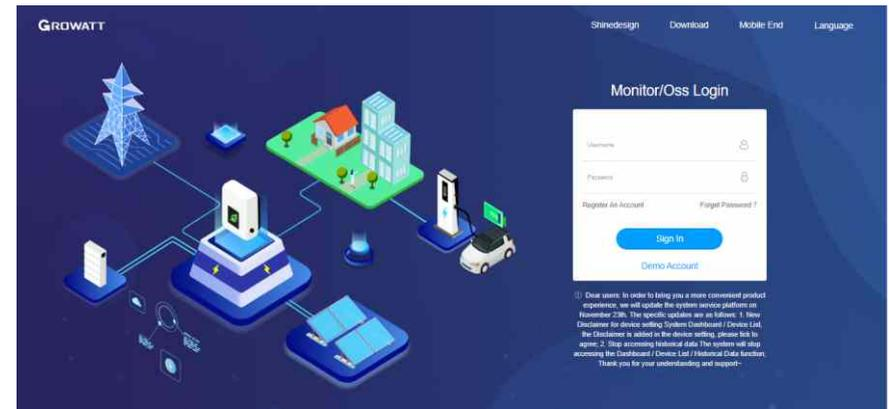

Figure 5-1 Shine Server login page
1. Enter the server domain name on the computer browser and go to the ShineServer login page. If you are logging in for the first time, please register your username first. Enter the domain name access page as shown in Figure 5-1.